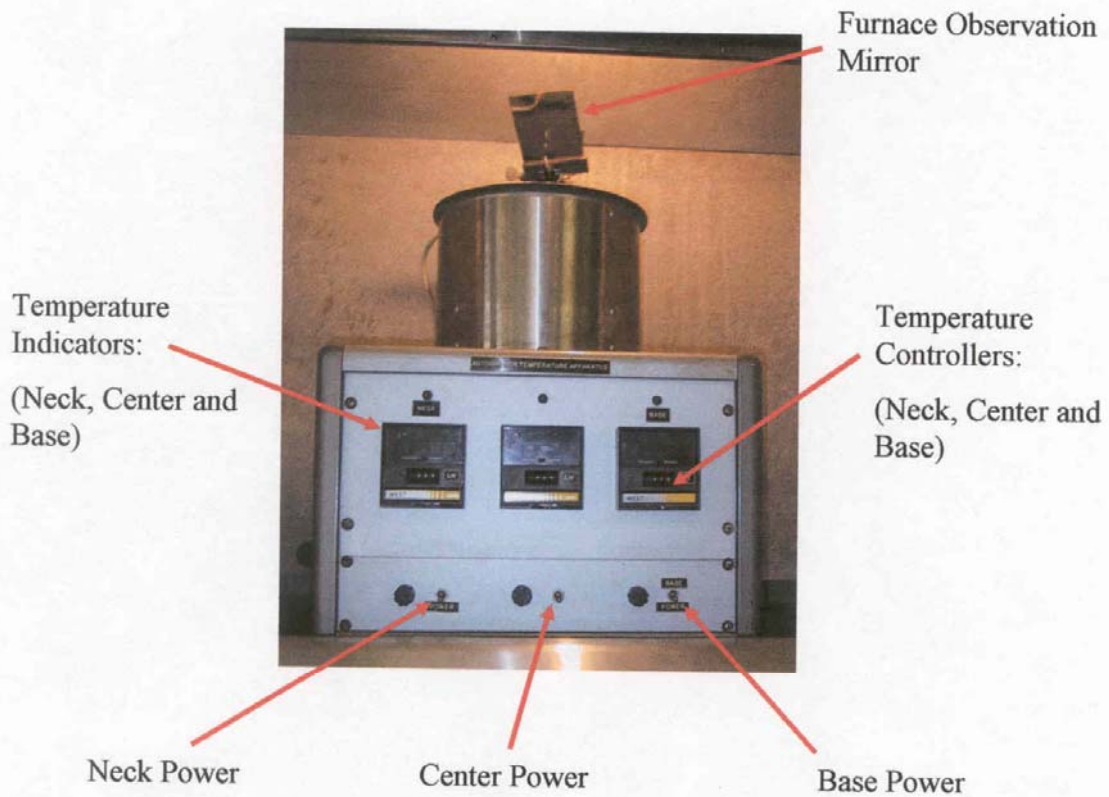

Figure 1
7.1. The method for testing hydraulic fluids described in this procedure is to inject a small amount of fluid from a syringe into a flask that has been preheated in the autoignition test furnace (Figure 1, page 10) to a desired temperature at atmosphere pressure. The fluid is then observed for 5 minutes to determine whether autoignition occurs. The temperature of the flask is then raised or lowered and the size of the sample is varied until the lowest autoignition temperature is determined.
- 7.1.7. Set the three digital temperature controllers (Figure 1) at 600°F.